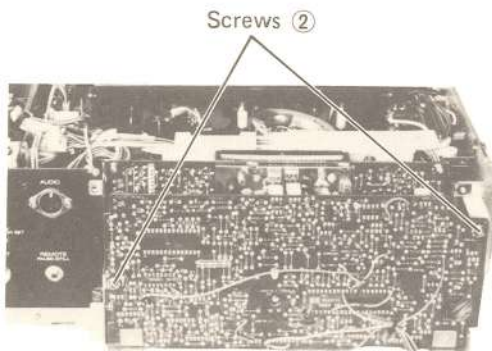

Fig. 3-9
1. Remove the tow screw ② on the printed circuit board as shown in Fig. 3-9.